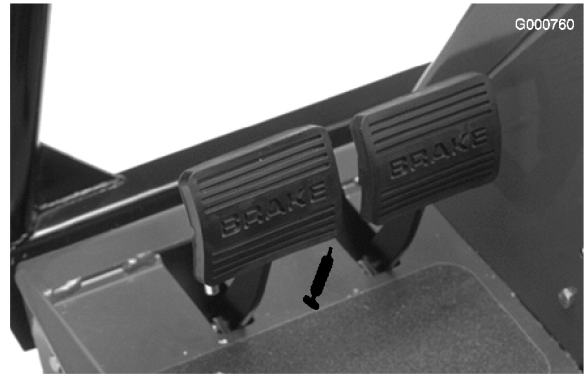

Figure 37
- Brake pedal shaft (1) (Figure 37)